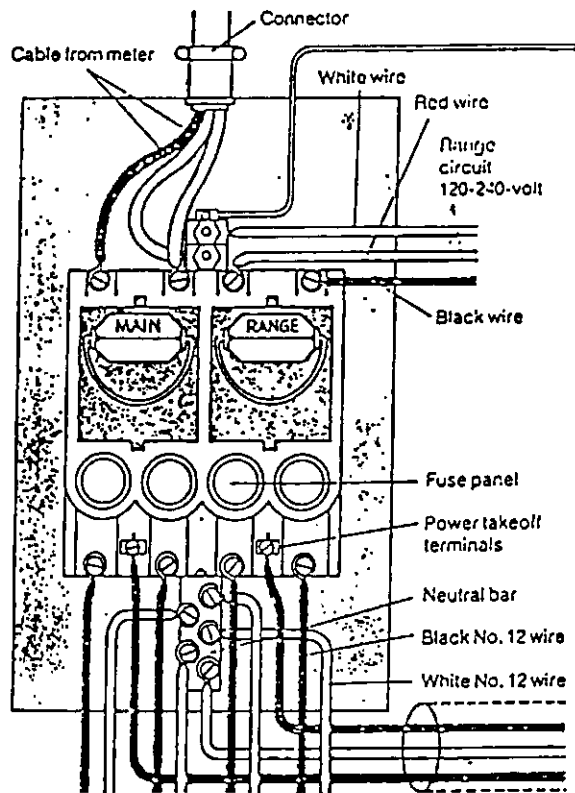

Figure 1. Fuse box without cover.
1. Exposed fuse box; one without a cover. See figure 1.